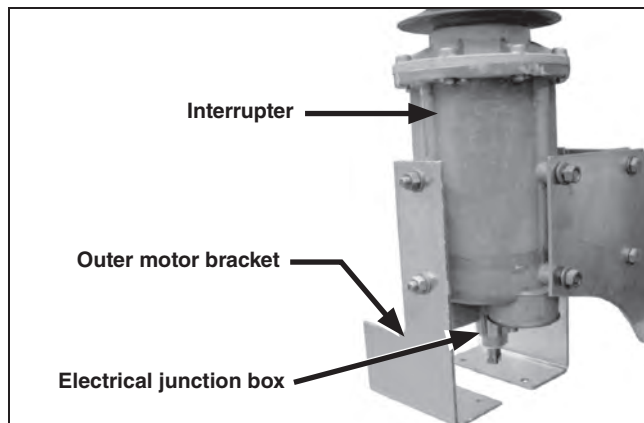
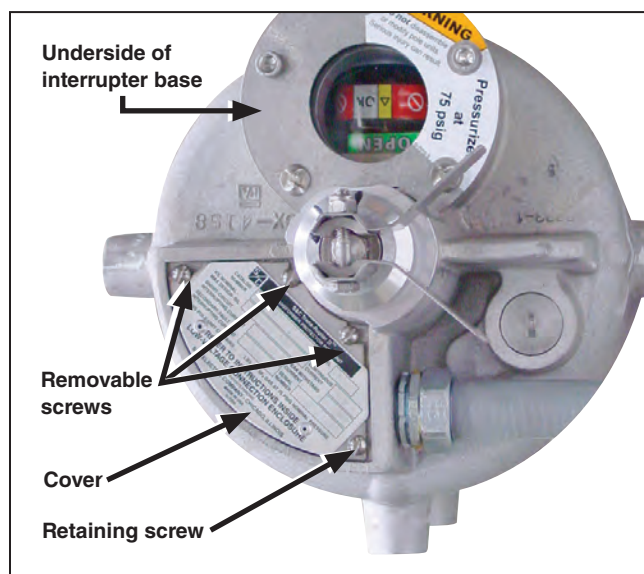
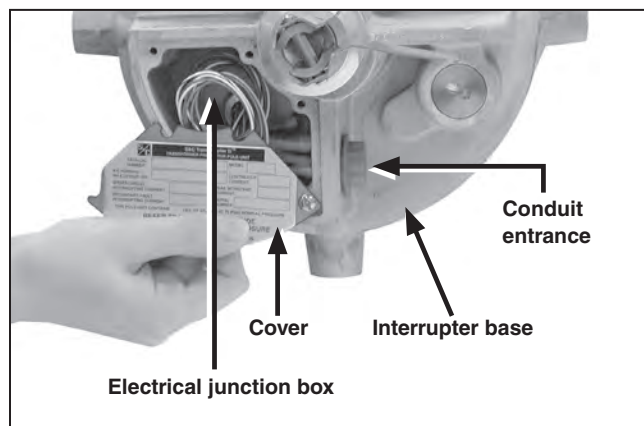

Figure 36. Temporarily remove the motor bracket.
Figure 37. Remove the three removable screws from the interrupter electrical junction box cover. Loosen but do not remove the fourth screw.
Figure 38. Swing out the cover to access the wiring inside the electrical junction box.
**STEP 1.** Remove the outer motor bracket. Retain the hardware. Remove the three removable screws of the interrupter electrical junction box cover. Retain the hardware. Loosen the fourth retaining screw. Swing out the cover to access the wiring inside the electrical junction box. See Figure 36 through Figure 38.
**STEP 3.** Rotate the cover of the electrical junction box and replace the retained screws. See Figure 37. Securely tighten all screws. Reinstall the motor bracket removed in Step 1. Torque the removed 5/8-inch stud nuts to between 70 and 80 ft.-lbs. See Figure 36.